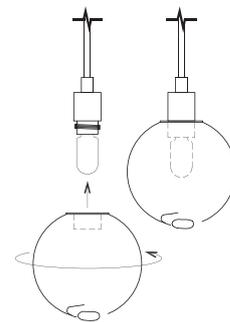

Figure 8. Install glass sphere by threading onto brass sockets
- 14 Install a light bulb in each socket (provided - 7W Max). Unwrap and lay out the 15 individual glass shades. Carefully thread a glass shade onto each socket (Figure 8). Do not overtighten.